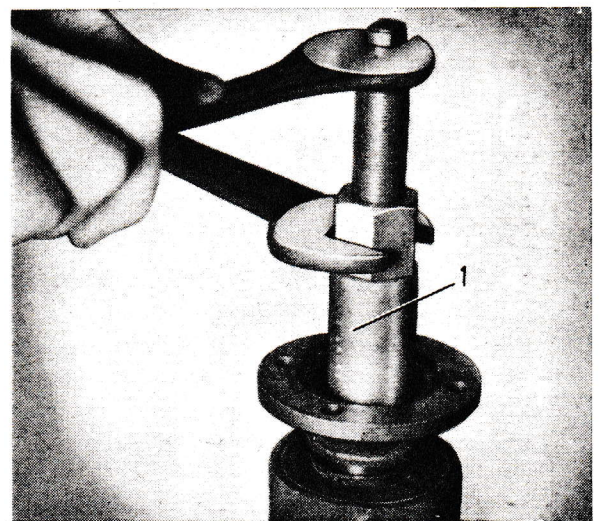

Fig. 8. Fitting the flange.
4. Press on the flange with the help of press tool SVO 1845, Fig. 8.